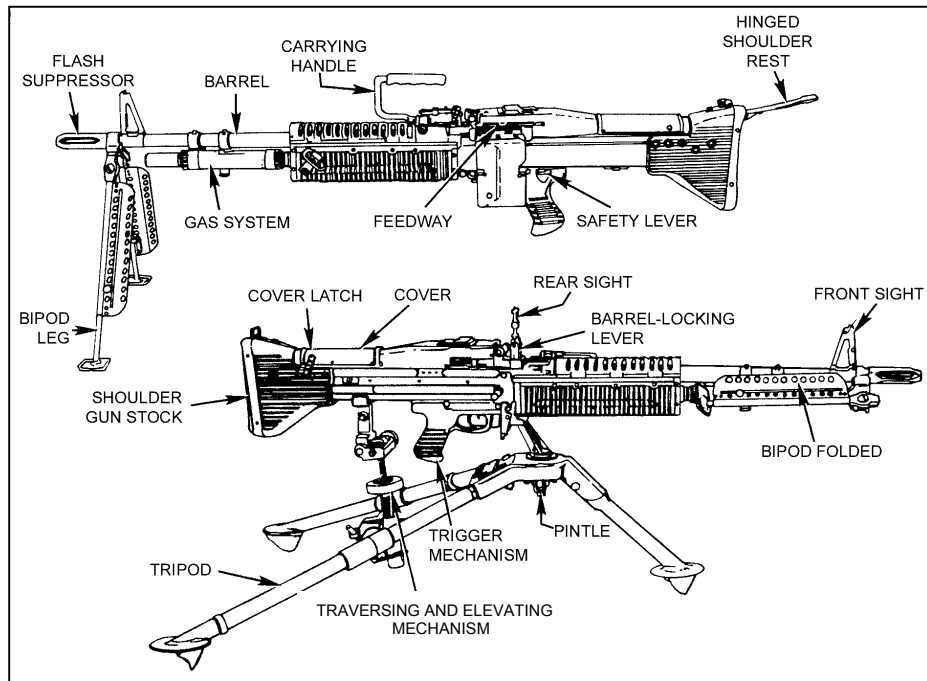

Figure 2-1. M60 machine gun, bipod- and tripod-mounted.
The M60 is a gas-operated, air-cooled, belt-fed, automatic machine gun that fires from the open-bolt position (Figure 2-1). It has a maximum rate of fire of 550 rounds per minute. Ammunition is fed into the weapon from a 100-round bandoleer containing a disintegrating metallic split-link belt. It can be fired from the shoulder, hip, or underarm position; from the bipod-steadied position; or from the tripod-mounted position. (See Table 2-1, on page 2-2, for general data.)
a. **Sights.** The front sight is attached to the barrel. The rear sight is mounted on a spring-type dovetail base, and it can be folded down when the gun is moved (See Figure 2-1).
b. **Safety Lever.** The safety lever is on the left side of the trigger group (Figure 2-1). It has an “S” and an “F” position. On the “S” position, the bolt cannot be pulled to the rear or released to go forward.